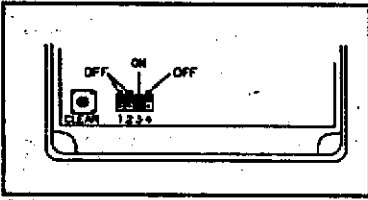

Fig. 2. CLEAR Button and Jumpers.
7. Connect the battery; a chirp will sound. (This ensures that power is properly connected.) **Important:** Press the small CLEAR button at the lower-left corner of the circuit board (see Fig. 2).
9. Select jumper options (J1–J4) as follows. Refer to Fig. 2. The unit is factory supplied with the Annunciator option enabled (J3 installed) and 2-Minute Shutdown alarm selected (J4 removed).